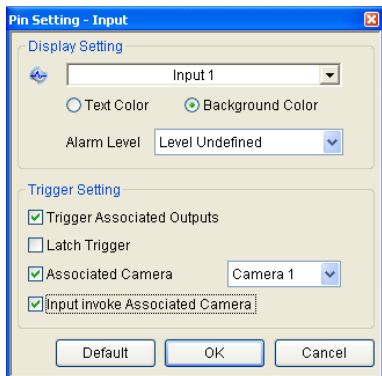

Figure 4-50
- **Use User-defined Text:** Allows you to modify the text of Alarm Level (Figure 4-50).